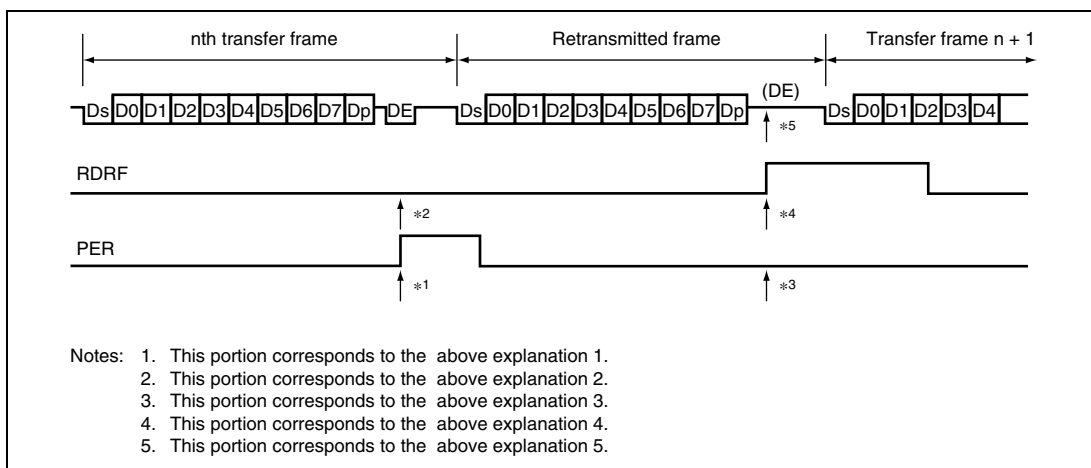

**Figure 15.9 Retransmission in SCI Receive Mode**
**Retransmission by the SCI in Receive Mode:** Figure 15.9 shows the retransmission operation in the SCI receive mode.